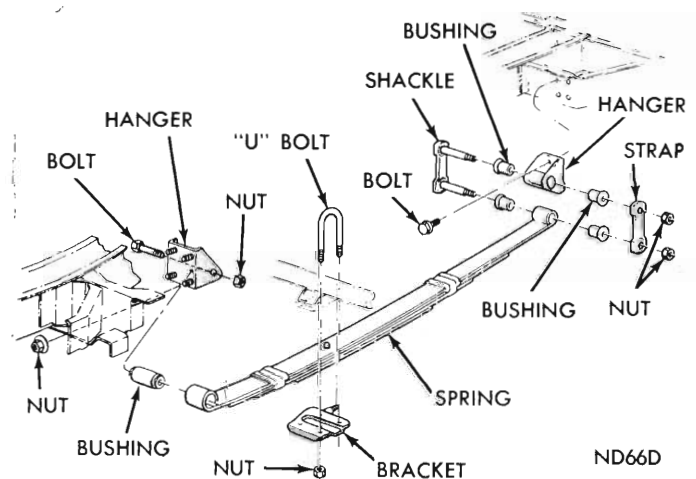

Fig. 1 - Rear springs, hangers and shackles.
The rear springs (*Fig. 1*) are of semi-elliptic type with rubber bushings in the eye of each end of the main leaf. These bushings tend to reduce noise and increase riding comfort by reducing torque and reaction shock.
- (1) Attach front hanger to front end of spring and tighten pivot bolt nut to specified torque (See Page 17-3).
- (2) Assemble rear shackles and bushings (*Fig. 1*) in rear of spring and rear spring hanger. (Do not lubricate rubber bushings). Tighten shackle bolt nuts to 30 lbs. ft.
- (3) Attach the rear hanger to the body bracket and tighten bolts to 30 lbs. ft.
- (4) Attach the front hanger to the body bracket and tighten bolts to 30 lbs. ft.
(5) Remove the rear axle housing support, and place centre hole of axle spring seat over the head of the spring centre bolt.
(6) Place the spring plate under spring and install the "U" bolts, and tighten nuts to 45 lbs. ft.
(7) Raise vehicle and connect rear shock absorbers. Remove stands and lower vehicle onto its wheels.
(8) Jounce the vehicle several times and compare spring heights. (It may be necessary to replace mating spring to ensure level position of vehicle.)